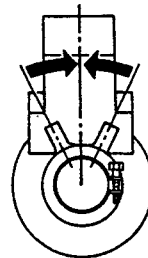

Fig. 3
2. Loosen the deflection yoke mounting screw, and set the purity control to the center as shown in Fig.3.